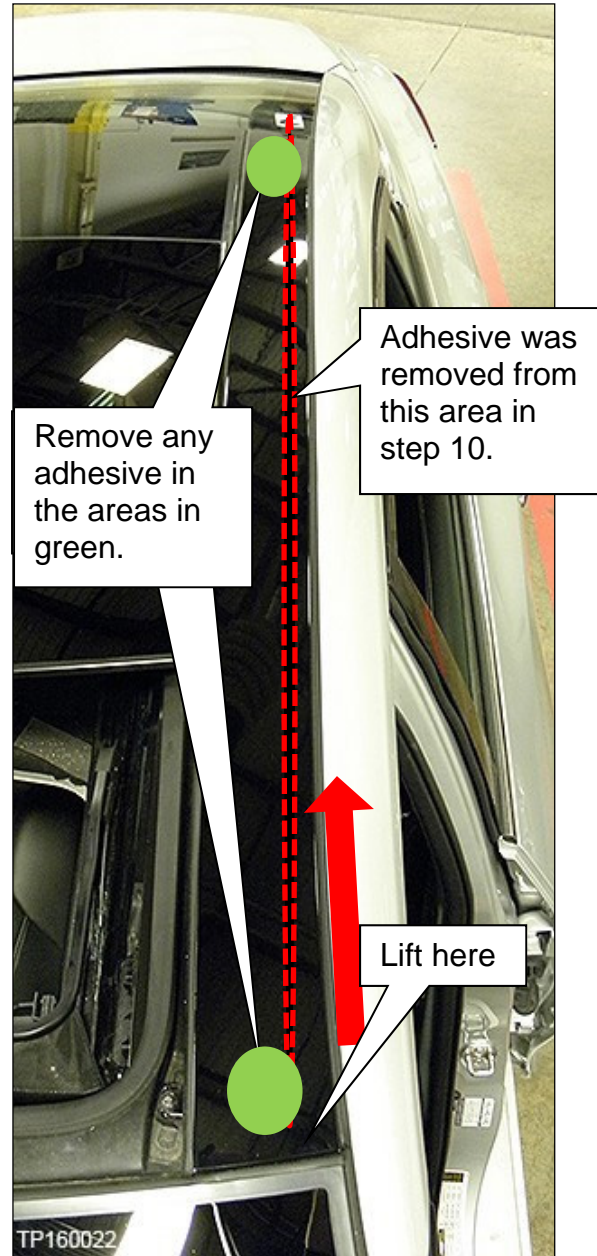

Figure 12
13. If the roof finisher still will not release after the pins have been released, cut away any adhesive under the roof finisher indicated by the green circles as shown in Figure 12.